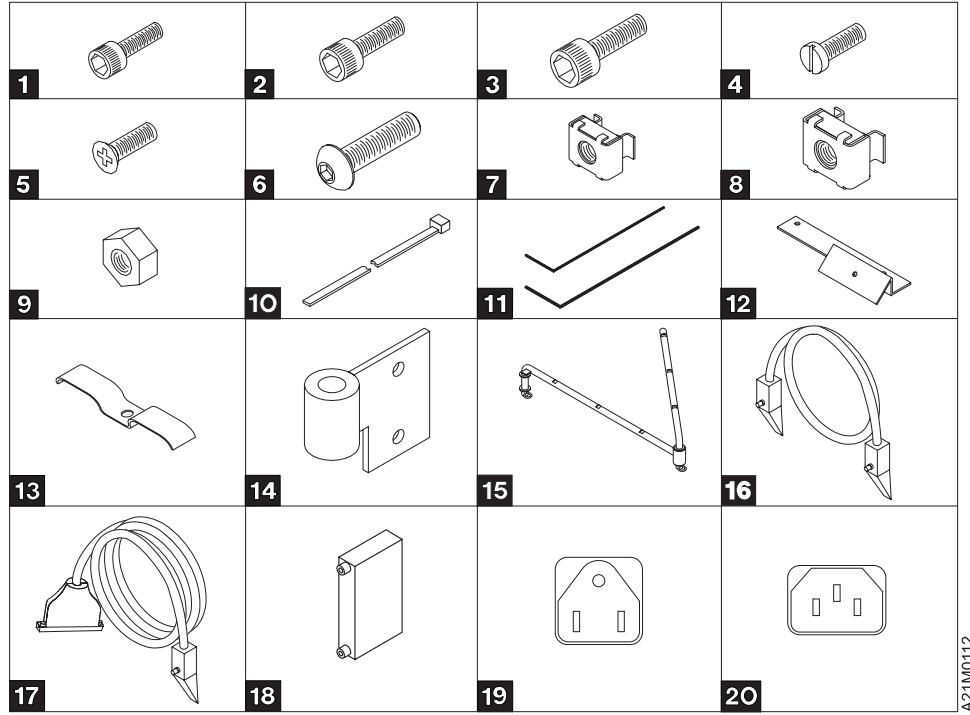
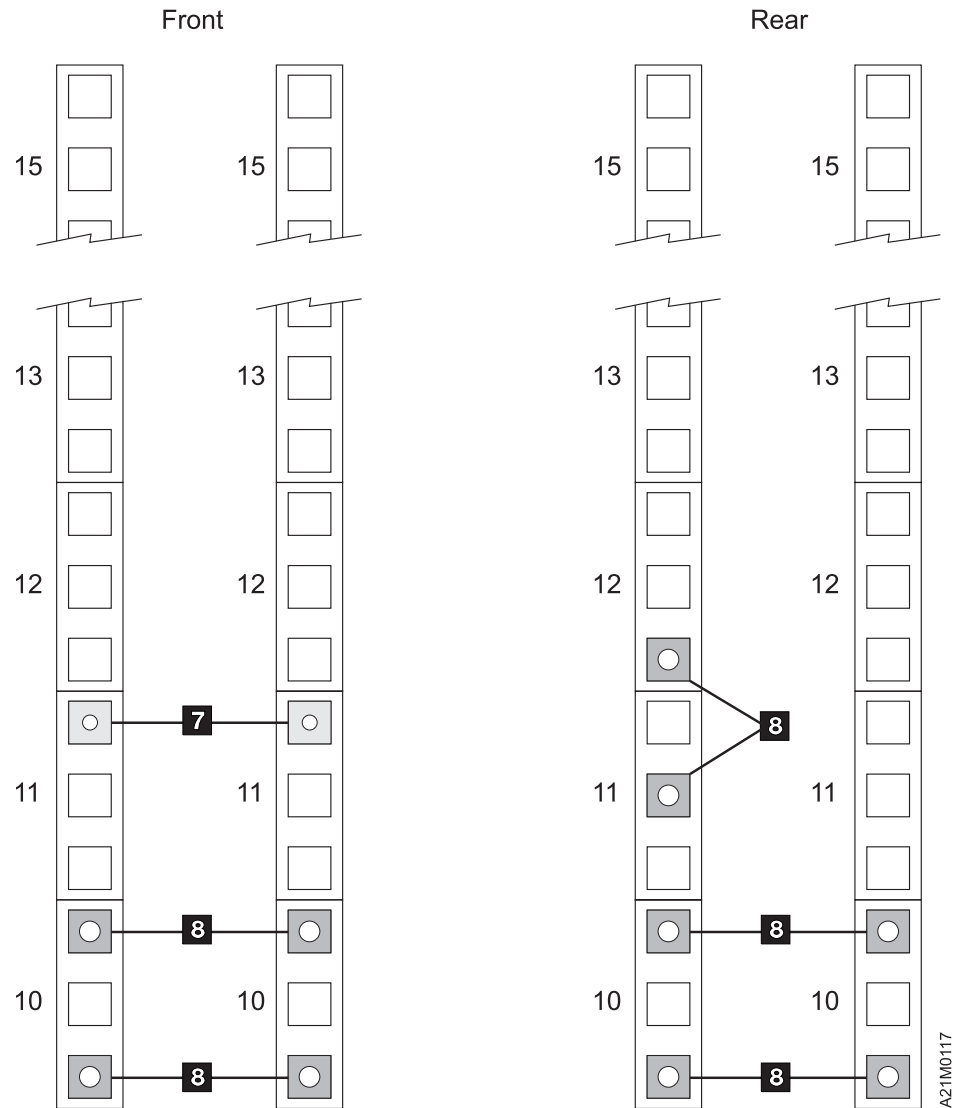

Figure 35. 3570 Drive Models B21 and B22 Rack-Mounted Hardware Ship Group Parts and Tool Diagram
Figure 36. EIA Specification
- ___ Step 1. Use Table 18, Figure 35 on page 71, and Table 19 on page 71 to inventory and identify the components in your 3570 shipment. Reference these lists to ensure you have all the necessary parts before you begin your installation, they are helpful references during the actual build phase of your 3570 library. (In the following installation pictures, block numbers **1** through **20** represent items in your hardware ship group. All other block numbers are referenced for description only.)
- a. When you are installing either Model B21 or Model B22 in a rack, you are instructed to locate components by Electronic Industry Association (EIA) rack unit and hole location. An EIA unit is composed of three holes. (See Figure 36 on page 73 for an example.) All hole locations are specified within contiguous EIA rack units, and are square shaped.
- ___ Step 3. Locate the physical area in the rack where the 3570 is to be installed. See Figure 36 on page 73 as your reference for the captured nut locations. The front view shows the frontal left and right EIA strips as viewed from the rack front. The rear view shows the rear right and left EIA strips as viewed from the back of the rack. Items **7** and **8** refer back to the list of items in Figure 35 on page 71.
- ___ Step 1. To prepare for this task, and all successive tasks, refer to the parts shown in Figure 35 on page 71. The tools you will be using to install the 3570 include: a flat blade screwdriver, a number two Phillips screwdriver and an adjustable wrench. Two hex wrenches are included in the machine package.
- ___ Step 4. **Read the following before doing steps 5a, 5b , 5c, and 5d.** These caged nuts must be pressed into the square hole [using a flat blade screw driver]. Once they are seated, they will maintain their position. Next, using the Allen wrench **11** supplied, insert the socket button head screws **6** through the EIA strip and into the caged nuts **8** . Leave the screws loose enough to insert the slide mounting brackets **32** between the screw head and the EIA strip **31** . See Figure 36 on page 73 for referencing captured nut installations.